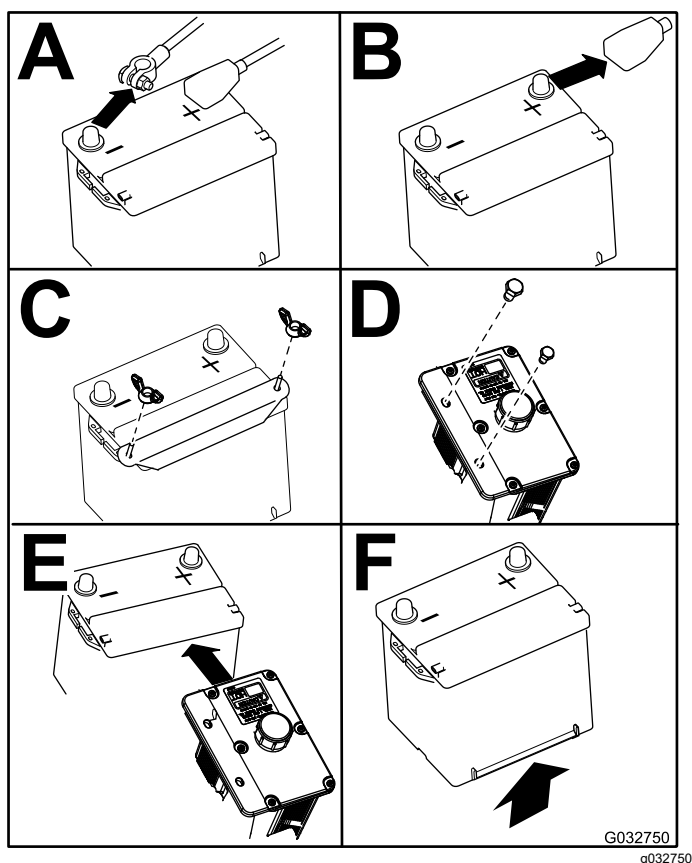

Figure 47
4. Remove the battery as shown in Figure 47.